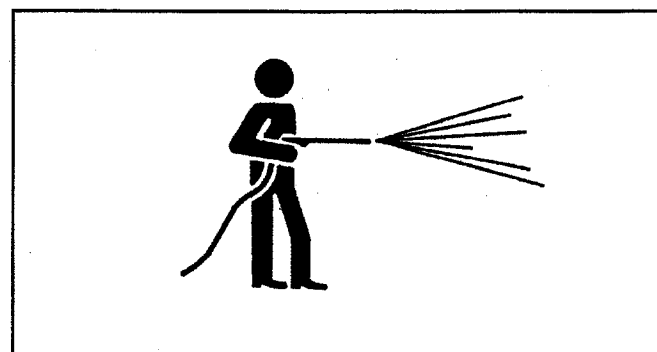

FIGURE 4.4
B. Keep Machine Clean- FIGURE 4.4